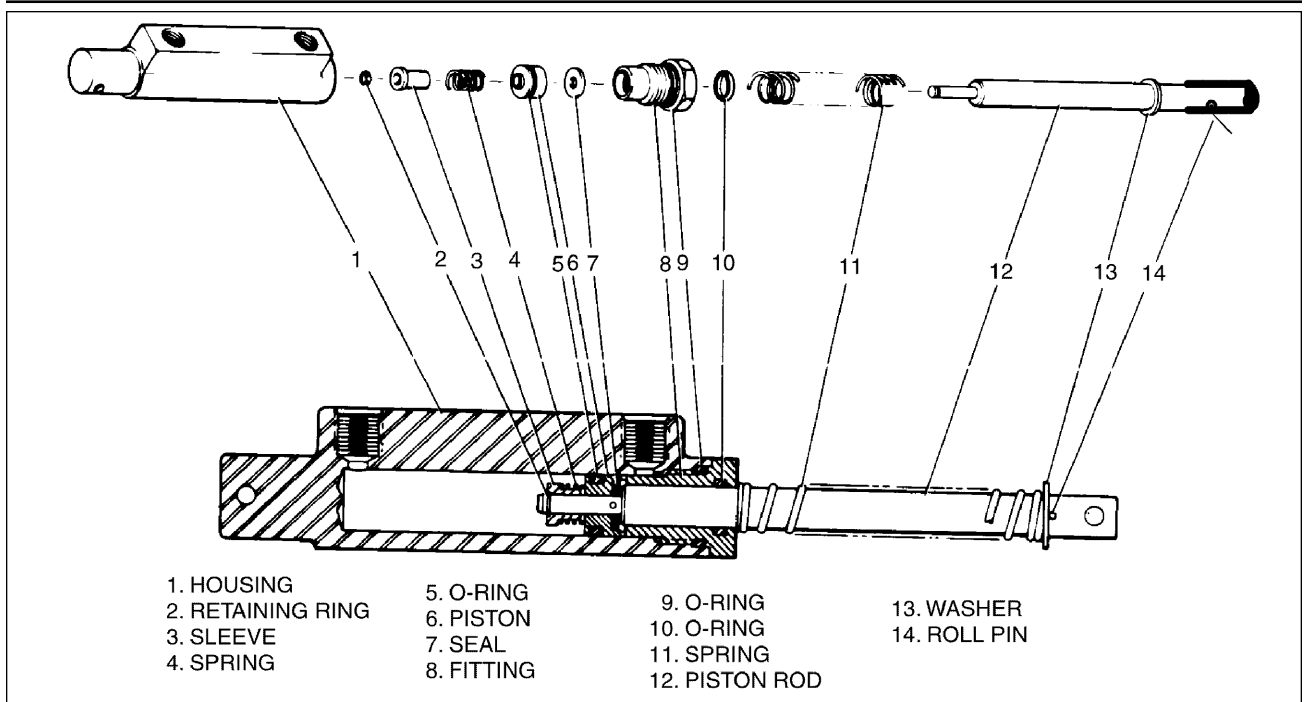

Figure 32-19. Gar-Kenyon 17000 Toe Brake Cylinder
(a) Gar-Kenyon cylinder number 17000. (Refer to Figure 32-19.)
(5) Assembly (Refer to Figures 32-19 and 32-20.)